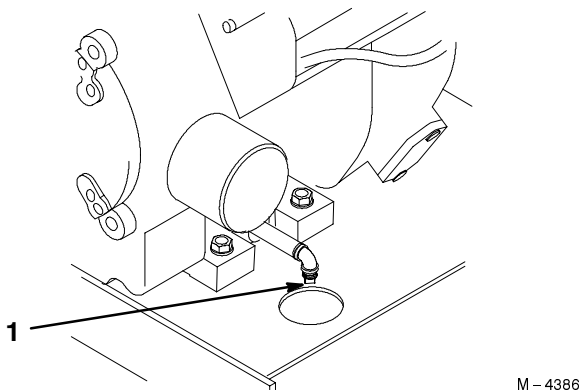

Figure 28
3. Place a pan below the oil drain. Remove the oil drain plug (Fig. 28).
5. Slowly pour approximately 80% of the specified amount of oil specified, page 31, into the filler tube (Fig. 28). Now check the oil level; refer to Checking Oil Level, page 31. Slowly add additional oil to bring to "FULL" mark on dipstick.